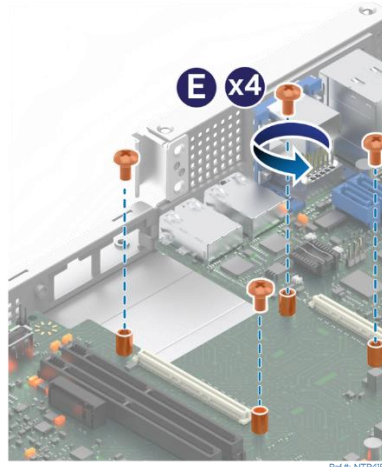

Figure 43. OCP* Module Mounting Screws
7. Locate and remove the four screws from the OCP* stand-offs on the server board (see Figure 43).